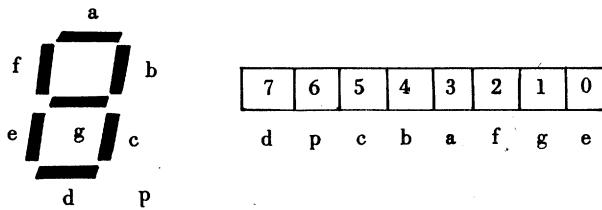

Fig. 4-3 The corresponding bits of the 7-segment display
- (b) Port B (address 01) controls the seven segments and decimal point of the display. Figure 4-3 shows the name of each segment and the corresponding bit in port B. All output bits are active high.